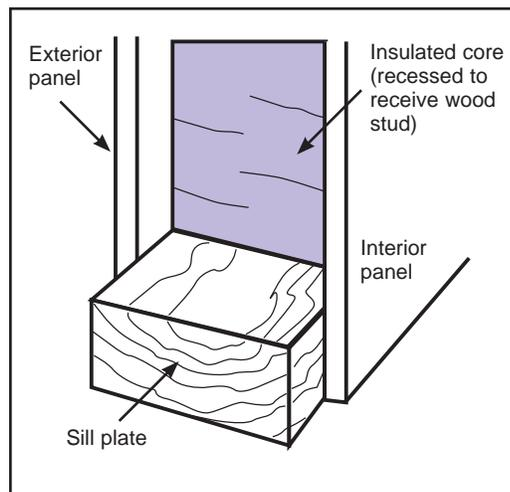

Fig. E-14: Stress skin panel joinery
- Easily achieved airtight assembly (see Figure E-14).